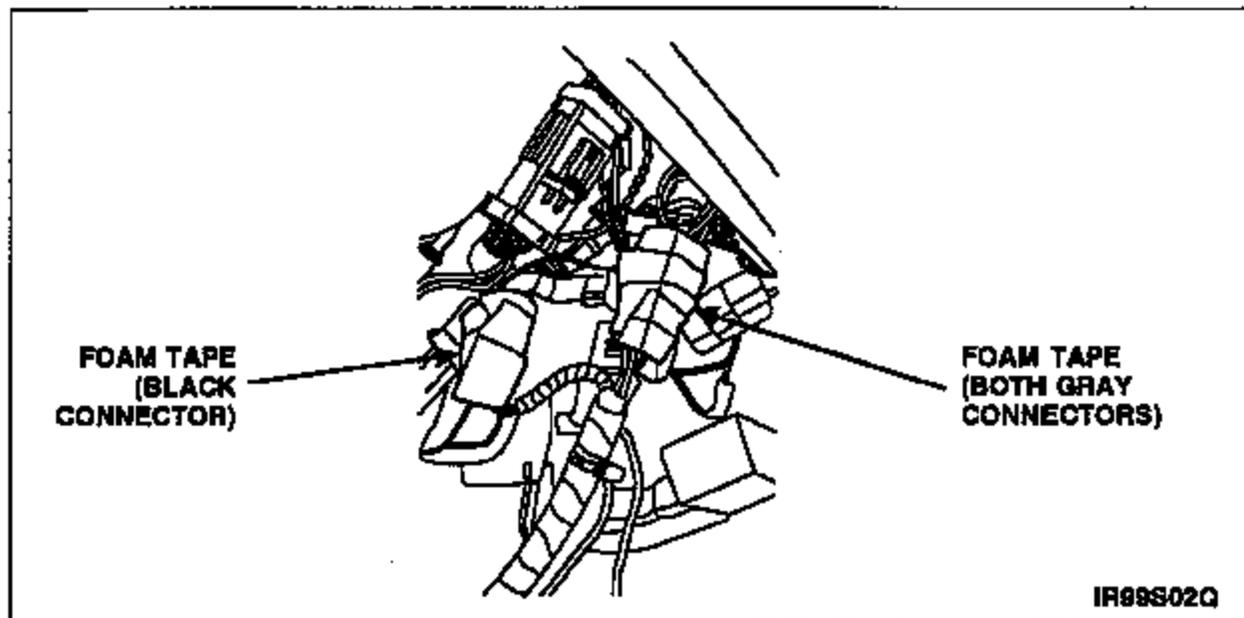

FIGURE 17
26. Using foam tape, wrap both gray electrical connectors together. Refer to Figure 17.
27. Using foam tape, wrap black electrical connector. See Figure 17.